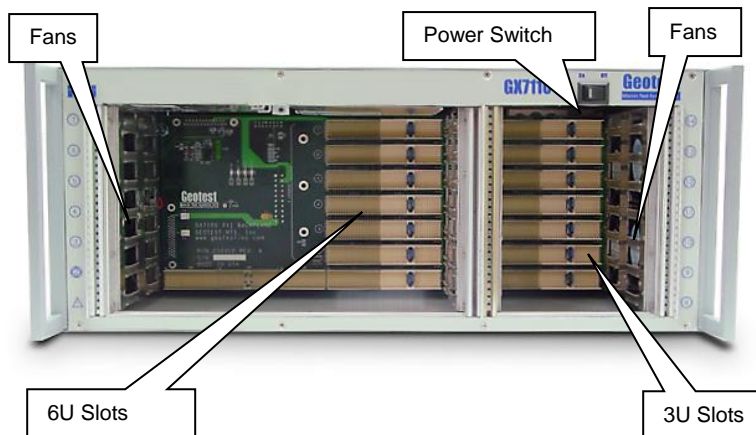

Figure 2-4: GX7110A Front View
- **GX7102:** This chassis is similar to the GX7100 but is a rack mountable unit that also incorporates an integrated cable tray and hinged front panel for mass interconnect applications. See Figure 2-4.